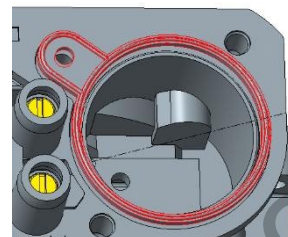

Fig. 2
3. Place carefully the new rubber gasket (C) on its seat with the rib facing up (Fig. 2).